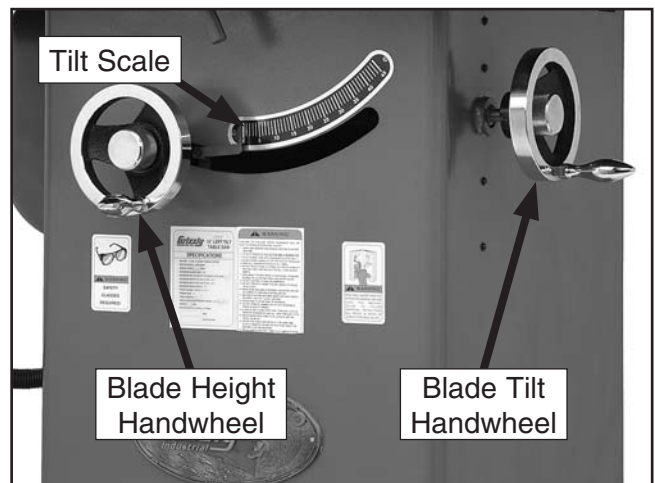

Figure 9. Installed handwheel.
2. Slide each handwheel over the threaded shafts that protrude from the side and front of the saw (**Figure 9**).